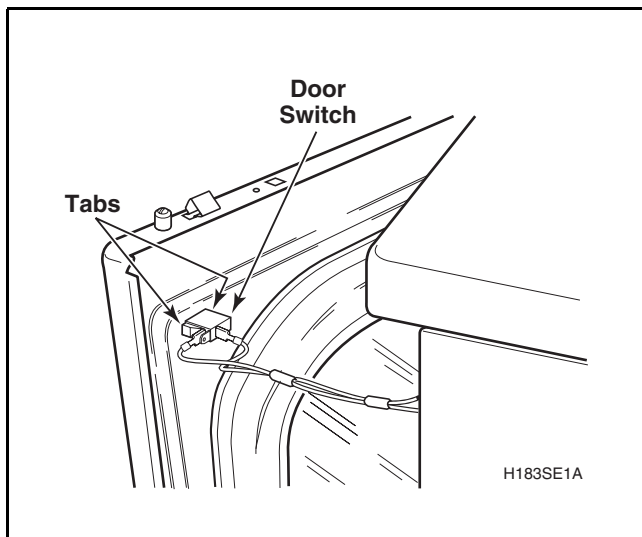

Figure 16
- e. Disconnect wires from door switch. Refer to *Figure 16*.
- d. Disconnect wires from door switch. Refer to *Figure 16*.
- e. Depress tabs on switch and push out of front panel. Refer to *Figure 16*.